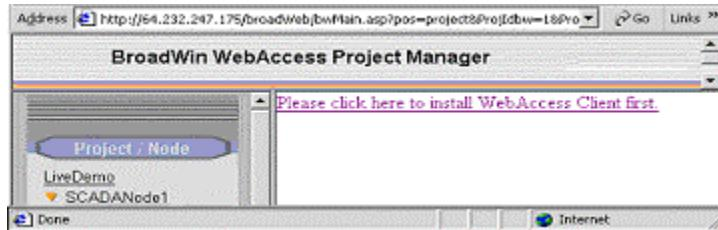

Figure 3-13 - Prompt to download and install WebAccess Client
9. If you have not already installed the Client, you will see a message (fig 3-13): "Please Click here to install WebAccess Client first".